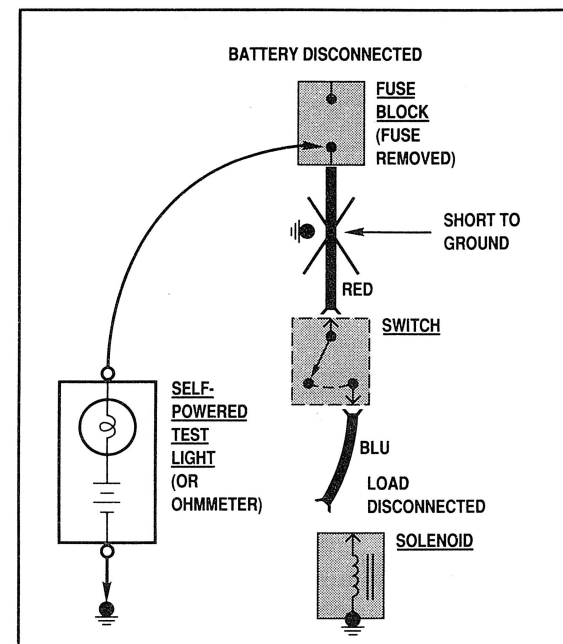

Figure 10 - Testing for Short with Self-Powered Test Light or Ohmmeter
3. Connect the other lead to a known good ground (Figure 10).